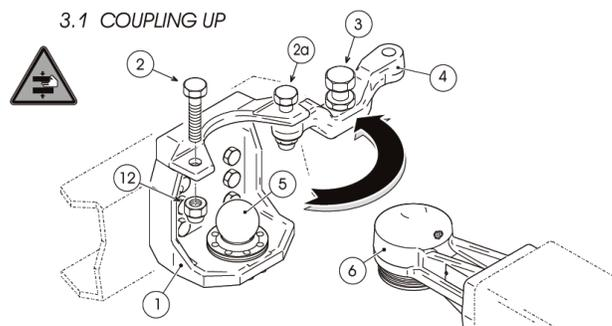
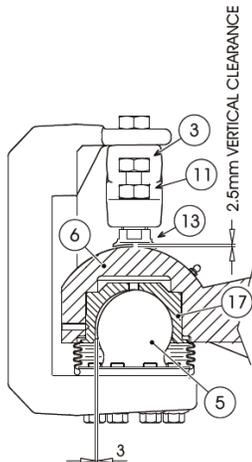

Figure 6.12
Figure 6.13
- ✓ Remove safety lock screw (2), recover and keep the relative self-locking nut (12) aside then also loosen safety lock screw (2a) and turn out the adjustment screw (3) by at least five turns (Figure 6.12).
- ✓ Rotate the safety cover bar (4) outwards so that it is completely open.
- ✓ Reverse truck very slowly until the ball cup drawbar eye (6) is in position exactly above the drawbar coupling ball (5).
- ✓ Lower the drawbeam until the ball cup drawbar eye (6) lies completely covering the drawbar coupling ball (5).
- ✓ Rotate the safety cover bar back inwards (4) and fit in safety lock screw (2) together with its self-locking nut.
- ✓ Adjust the adjustment screw (3) until a 0.3 - 0.5 mm vertical clearance between the guard disk (13) and the ball cup (6) is reached. Lock setting with counter nut (11) (Figure 6.13).